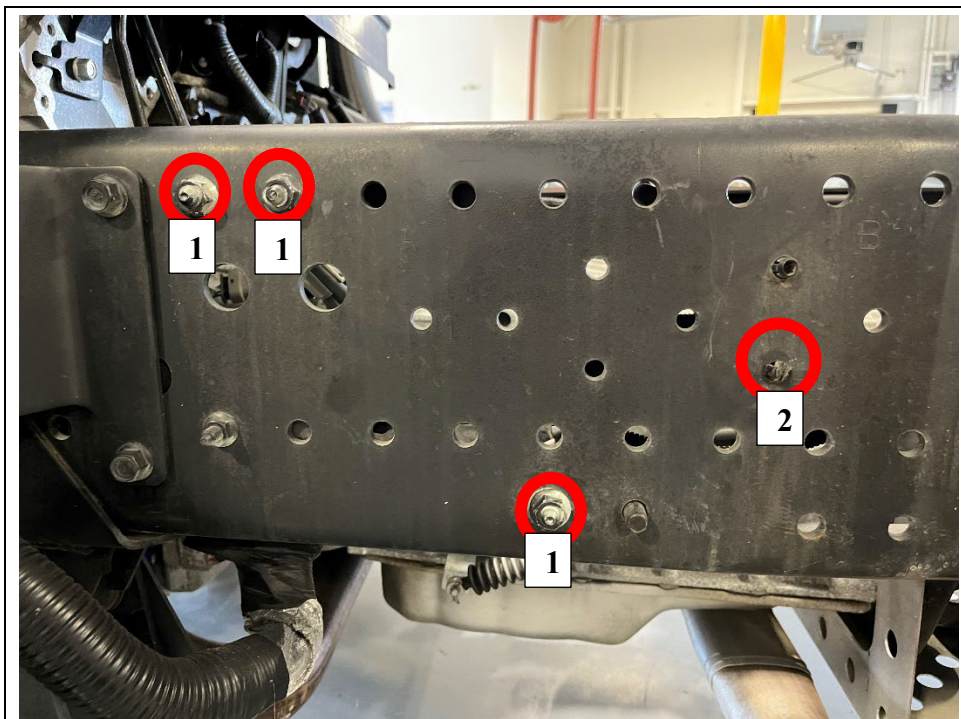

Figure 1 (NPR/NPRHD)
2. **(For NPR/NPRHD ONLY)** - Remove three (3) nuts and bolts (14mm) securing the transmission cooler lines and release one (1) chassis harness clip. (See Figure 1.)
13. **(NPR NPRHD ONLY)** - Secure the chassis harness to the frame by pushing the one (1) clip removed in Step 2 back into the frame. (See Figure 1.)
14. **(NPR NPRHD ONLY)** - Install the transmission cooler line mounting bracket bolts and nuts and torque to specification. (See Figure 1.) **Torque specification 40 Nm (30 ft lb)**